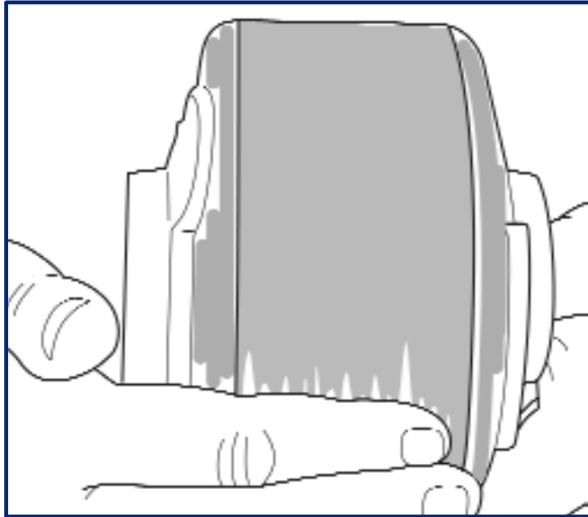
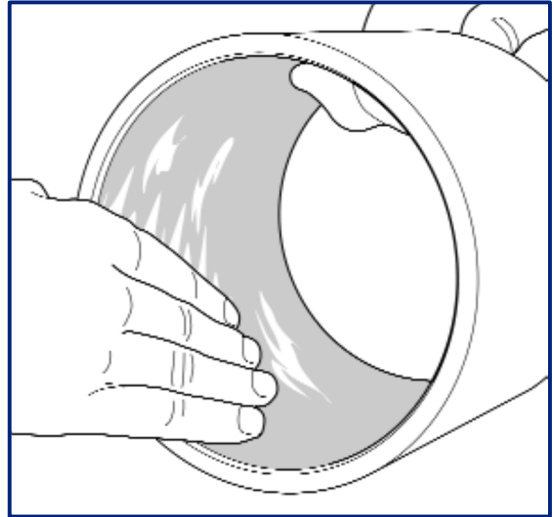
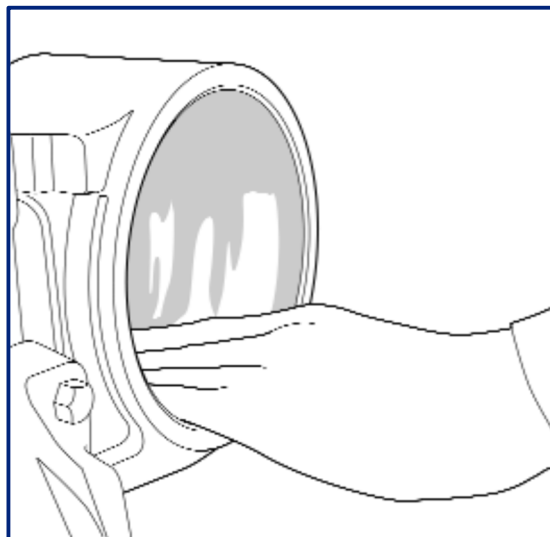

Fig 23
Fig 24
Fig 25
1. Apply P-80 gel solution to all surfaces and edges of the pivot bush, as shown (Fig 23). Also apply the solution to the funnel "D" (Fig 24) and trailing arm outer tube (Fig 25).